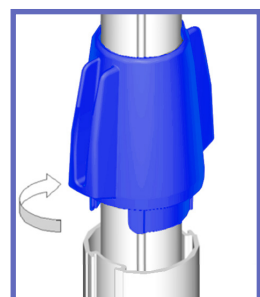

Fig. 46
- 16) Loosen the post by rotating the handle as shown in Fig. 46: